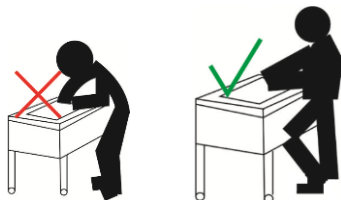

Fig.10
- Never put yourself in a position where your face is exposed to burns caused by hot water vapours from the tank. Use the correct posture (Fig. 10) when placing and removing containers from the tank.